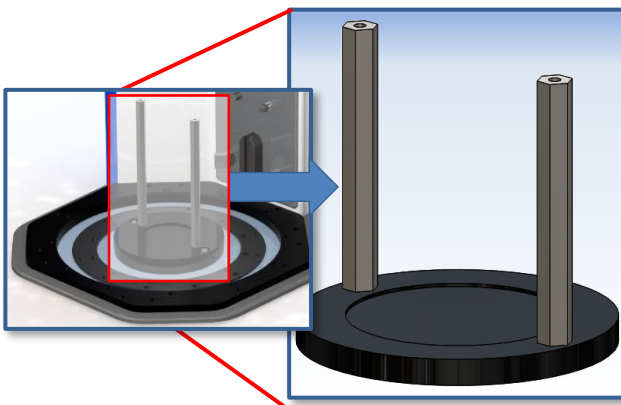

Figure 5-1: Vessel Holder Base and Standoffs
5.1.1 Figure 5-1 shows the Vessel Holder Base and Standoffs